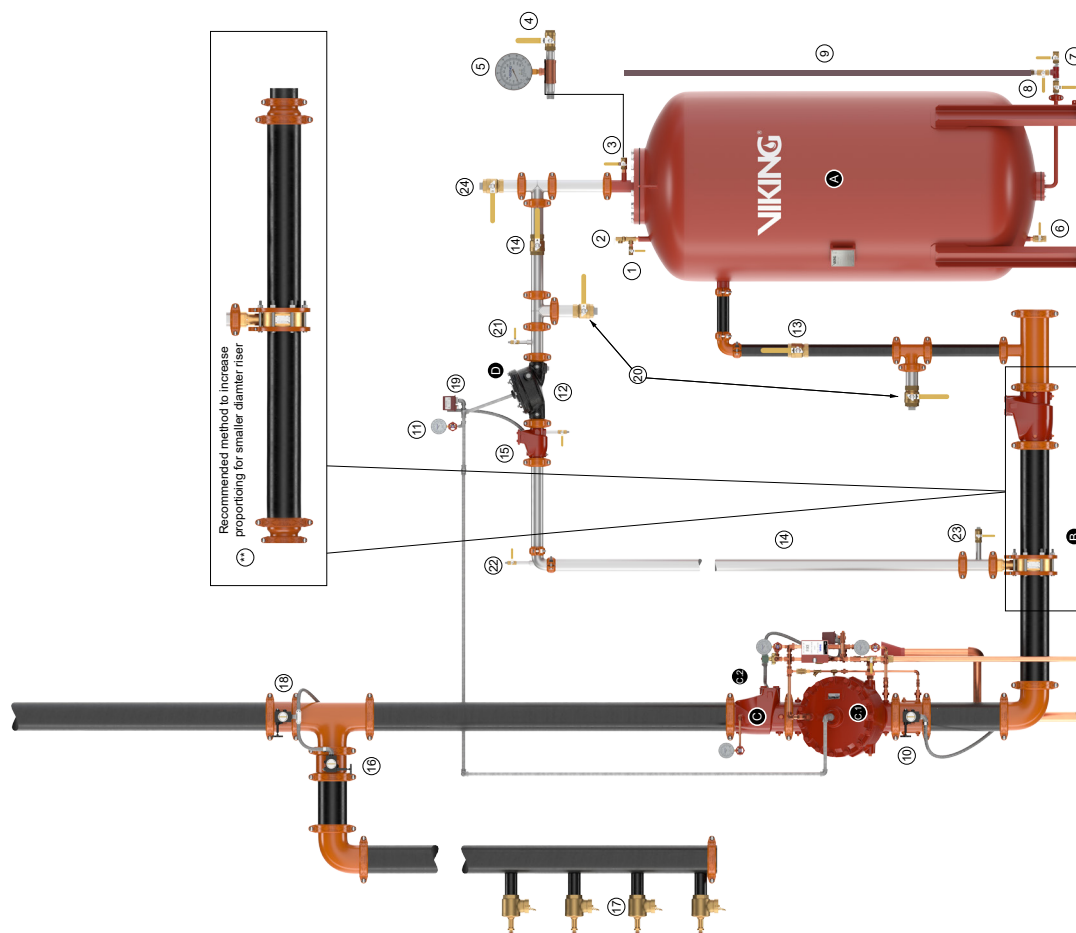

Figure 1
- A. Provide a minimum of 5 pipe diameters of straight pipe on the inlet and outlet of the wide range proportioner (B) to minimize the turbulence inside the proportioner.
- B. The combined total equivalent length of pipe (pipe length, plus equivalent lengths for fittings and valves) including both the water supply inlet piping (13) and the foam concentrate discharge piping (14), should not exceed 165 equivalent feet (50.3 meters); specifically, 100' (30.5 m) water supply and 65' (19.8 m) foam concentrate piping.
- C. The CCV (D) and swing check valve (15) must be connected adjacent to the wide range proportioner using the shortest pipe nipples possible.
- D. Figure 1 contains general schematics of the required piping arrangement. Refer to the appropriate technical data page for specific information regarding the valve, tank, and related trim and devices.
- G. The foam deluge CCV (D) does not require any trim, except for a 1/2" priming line, 1/2" auxiliary drain valve, and gauge with 3-way valve. Plug all remaining valve trim outlets.